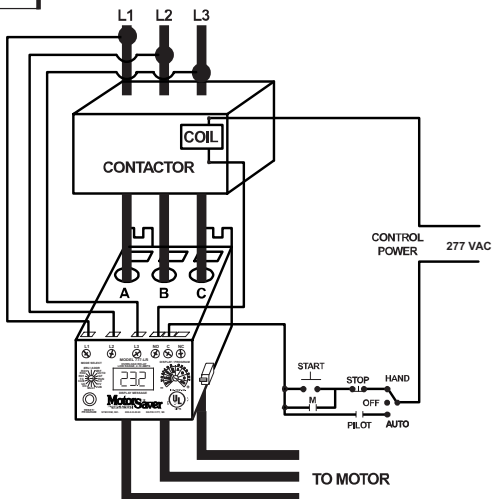

FIGURE NO. 1: Typical Wiring Diagram
- Insert the motor conductors through the round holes marked "A", "B", and "C." Terminate the conductors at the line or load side of the magnetic contactor. **Note: For motors with full load amps less than 2.0 Amps**, loop the conductors through the holes marked "A", "B", and "C" according to Table No. 1 below. The rectangular holes behind the holes marked "A", "B" and "C" are provided for wire looping (see Figure No. 1).
- Connect the three-phase power from the line side of the contactor to "L1", "L2" and "L3". First insert a #14 - #18 AWG wire into the top of the terminal marked L1 and tighten the screw on the front of the overload relay. Then, connect the other end of the wire to the line side of the contactor. Repeat these two steps for L2 and L3 (see Figure No. 1).
- Connect the output relay to the circuitry to be controlled (see Figure No. 1). To control a motor, connect the normally open contact in series with the magnetic coil of the motor starter as shown. To sound an alarm, connect the normally closed contact in series with the alarm (not shown).